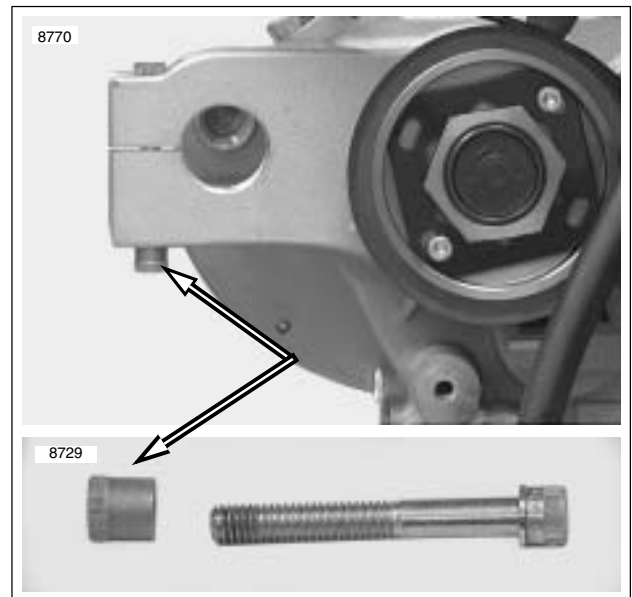

Figure 3-36. Threaded Insert
- c. See Figure 3-36. Swingarm pivot shaft pinch bolt threaded insert.